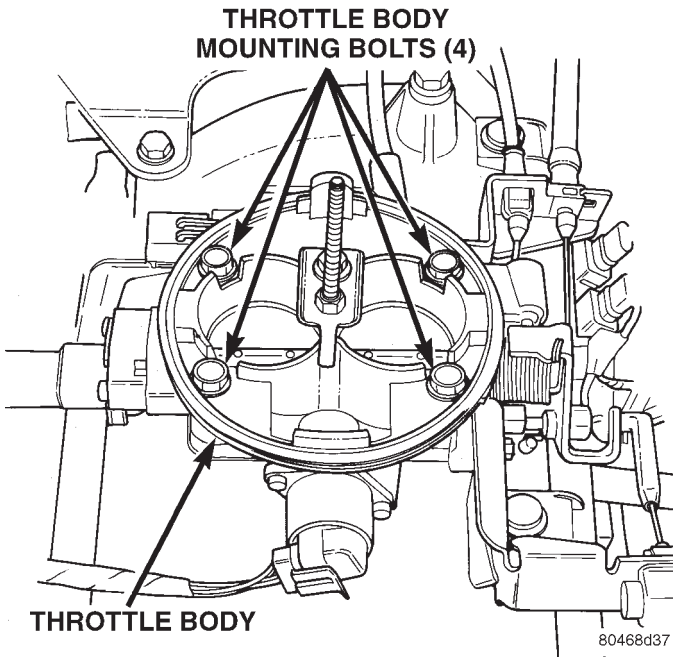

Fig. 65 Throttle Body Mounting Bolts—5.2L/5.9L Engines—Typical
- (3) Remove vacuum line at throttle body.
- (4) Remove all control cables from throttle body (lever) arm. Refer to the Accelerator Pedal and Throttle Cable section of this group for additional information.
- (5) Remove four throttle body mounting bolts (Fig. 65).
- (6) Remove throttle body from intake manifold.
- (7) Discard old throttle body-to-intake manifold gasket.